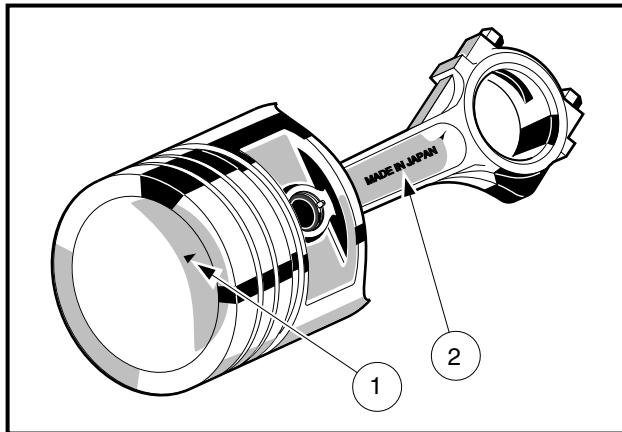

Figure 2-91 Piston/Connecting Rod
- 1.1. Align the arrow mark (1) on the piston head toward the words MADE IN JAPAN (2) on the connecting rod. Insert the piston pin through the piston holes and the connecting rod. Install the two retaining rings to hold the pin in place. The gap in the retaining rings should be facing towards the crankshaft. Make sure the retaining rings are seated in their grooves. Make sure the connecting rod moves freely **(Figure 2-91, Page 2-40).**